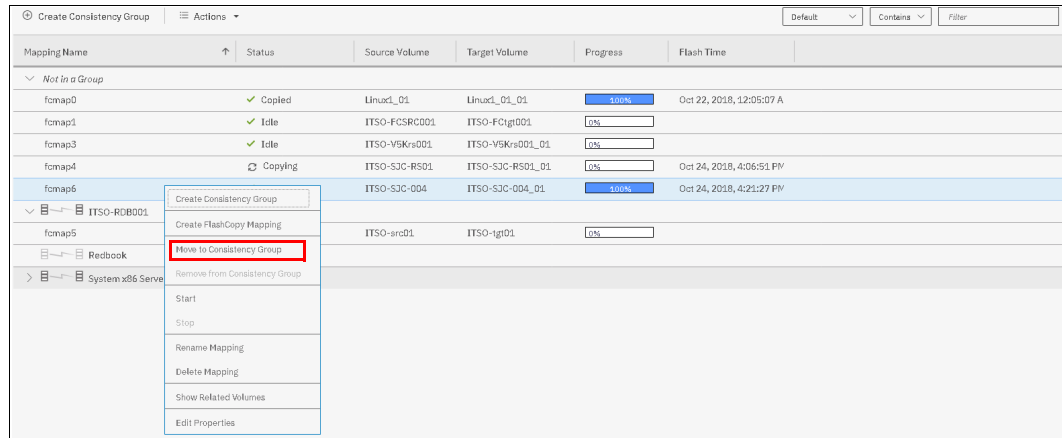

Figure 10-44 Move to Consistency Group action
3. Click the FlashCopy mapping relationship to move to a consistency group, as shown in Figure 10-44 on page 512.